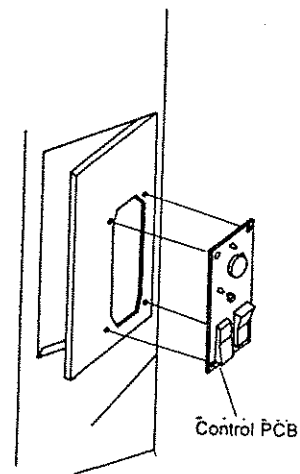

Fig. 51
5. Remove controller free from stove (see fig 51).